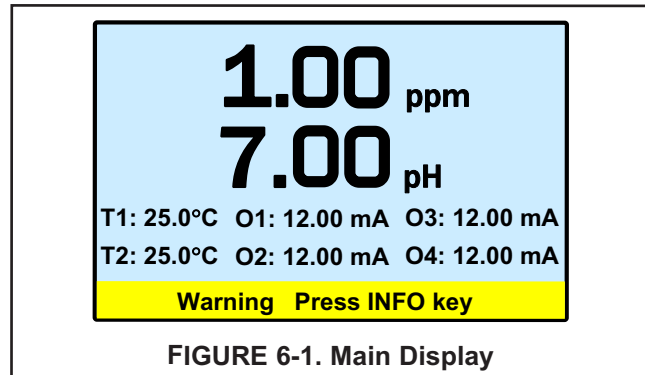

FIGURE 6-1. Main Display
The analyzer has a four line display. See Figure 6-1. The display can be customized to meet user requirements. See Section 6.5. Fault or warning messages, if appropriate, appear at the bottom of the screen. See Section 13.1.
1. With the main display showing (Figure 6-1), press the ENTER/MENU key. The main menu, shown at left, will appear. **Pressing the ENTER/MENU key will bring up the main menu only if the main display is showing.**